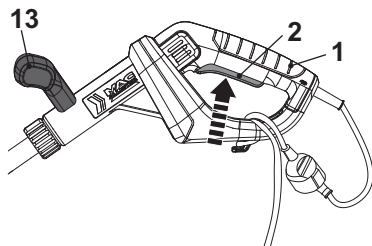

Fig. 8
1. Hold the product with one hand at the auxiliary handle (13) and with the other at the main handle (1).
2. Squeeze the on/off switch (2) to switch the product on (Fig. 8).
3. Release the on/off switch (2) to switch the product off.